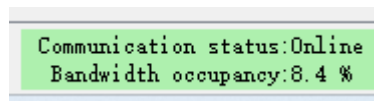

Figure 4-2
- 2) As shown in Figures 4-2 and 4-3, the rightmost section of the status bar indicates the serial communication connection status.